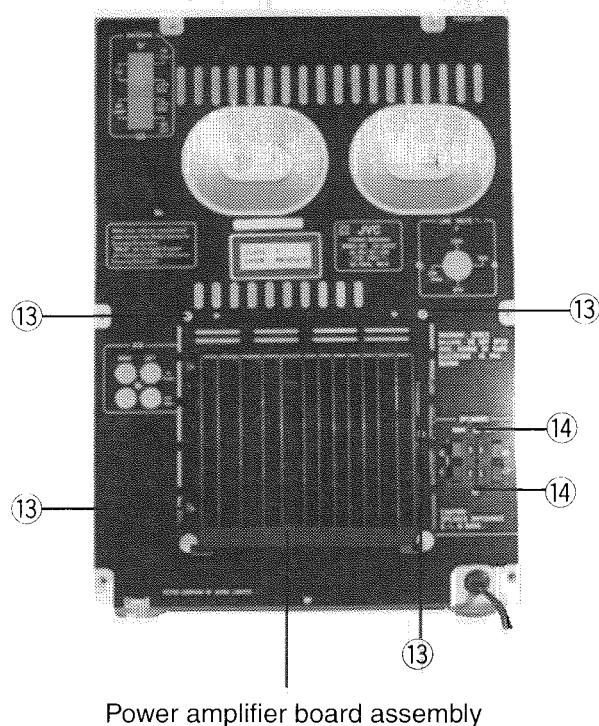

Fig. 13
7. Remove the four screws ⑬ fastening the power amplifier board assembly to the back side of the main unit. (See Fig. 13)
8. Remove the two screws ⑭ fastening the power amplifier board assembly. (See Fig. 13)